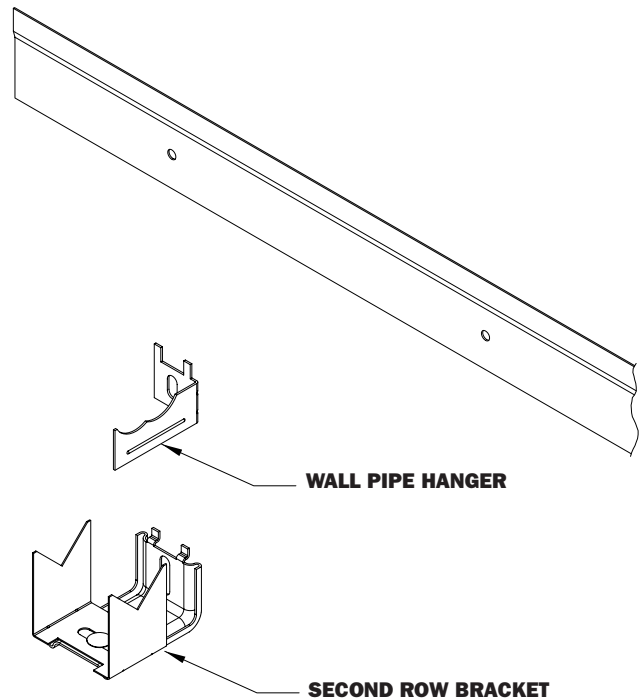

FIGURE S-3
- (3) On security units the second row brackets and wall pipe hangers will be mounted directly to the wall. (The brackets and pipe hangers should be installed approximately 36" apart.) Install the second row brackets and wall pipe hangers to the wall using fasteners suitable for wall construction. (FIGURE S-3)